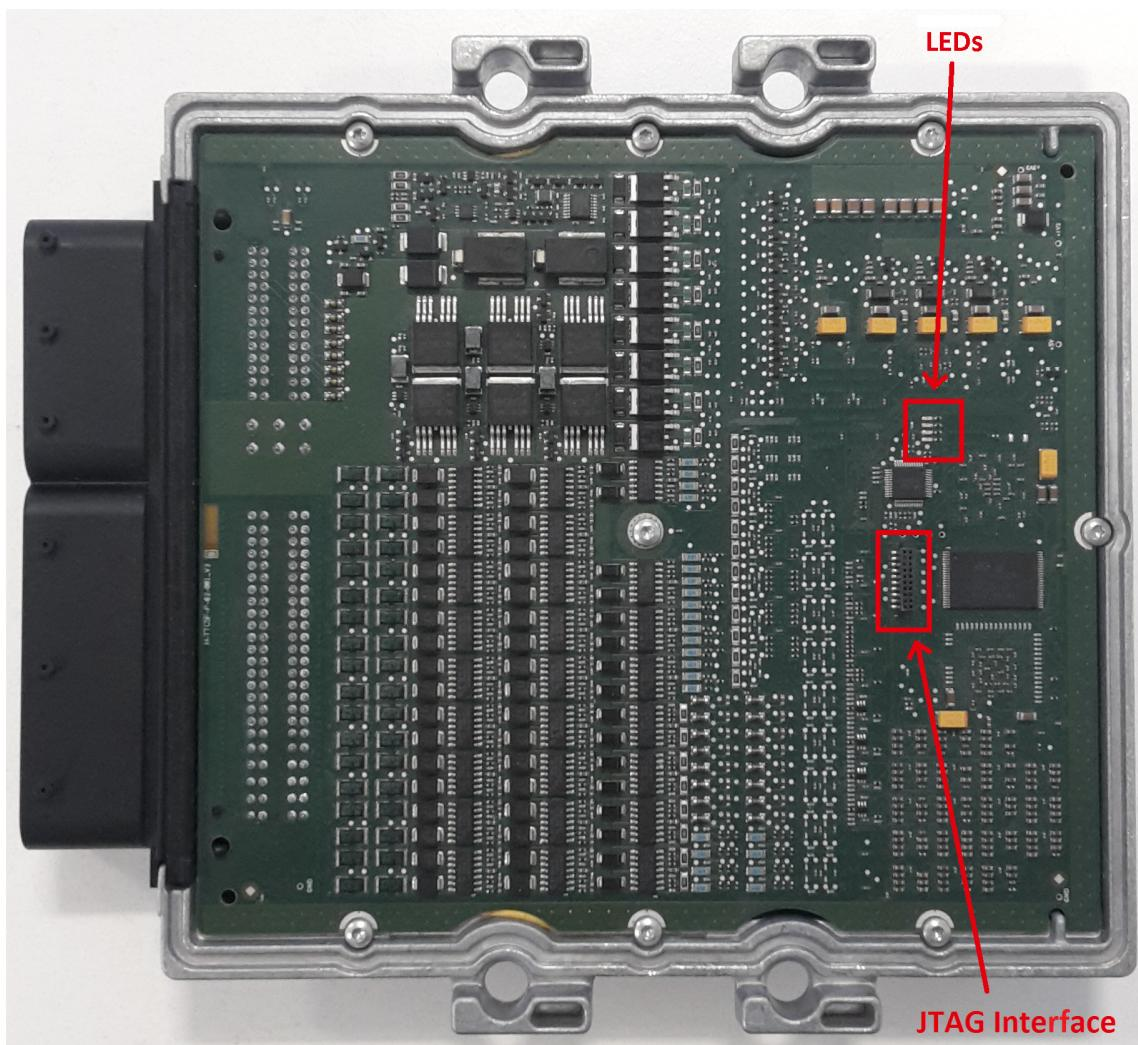

Figure 5.39: HY-TTC 500 with JTAG connector and LEDs
- open housing of the HY-TTC 500 ECU to enable a connection with the JTAG interface (Figure 5.39 on the next page)